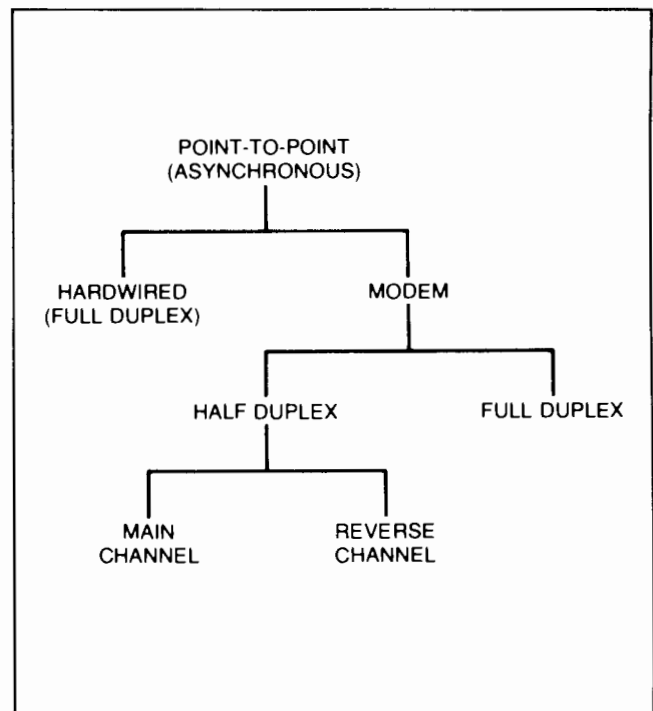

Figure 7-1. Point-to-Point Decision Tree
Having selected point-to-point you must now make the series of decisions illustrated in figure 7-1. You will notice that in that figure the overall set of decisions is organized as a tree structure and that when you make each choice you then follow the associated branch to the next set of alternatives. Point-to-point configurations always operate in asynchronous mode.
**HARDWIRED CONNECTIONS.** If you have chosen a point-to-point hardwired connection the only decision that remains to be made is the type of cable to be used. The available cables are summarized in tables 7-1 and 7-2. As noted in figure 7-1, an HP 2624B hardwired connection is always full duplex.
**MODEM CONNECTIONS.** If you have chosen a point-to-point modem connection you must now decide what type of modem to get. As noted in figure 7-1, point-to-point as supported by the HP 2624B always employs asynchronous transmission over asynchronous modems. If external clocking is configured the point-to-point supported by the HP 2624B can run over synchronous modems.